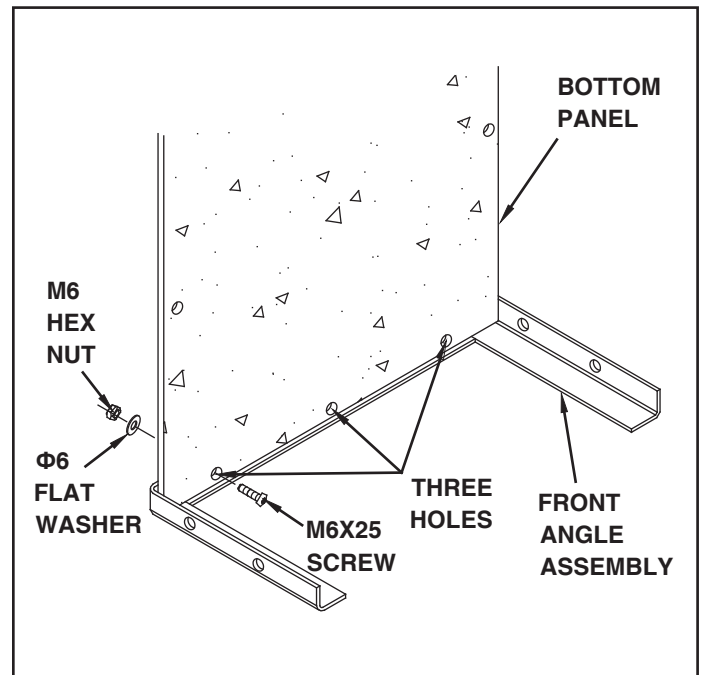

FIGURE 2
1. Lay the front angle assembly down (flat) on floor and stand the bottom panel in position as shown in figure 2.
The bottom panel has one galvanized edge; this is the rear. The front edge has three holes. See figure 2.
2. Line up three holes in bottom panel with holes in front angle assembly. Start three M6 x 25 screws through bottom panel, then through angle. Secure screws with $\Phi 6$ flat washers and M6 hex nuts. **Tighten securely.** See figure 2.